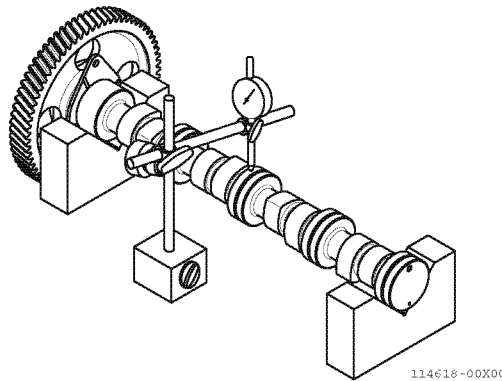

Fig.11-4
- 1 - Use V-blocks and dial indicator to check camshaft bend (Fig.11-4).